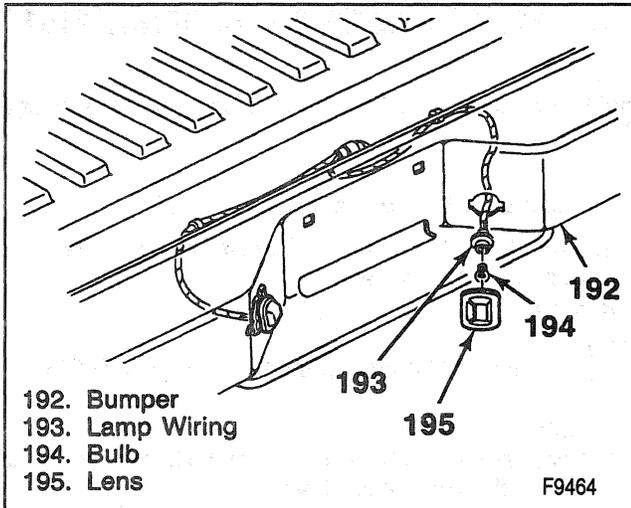

Figure 17—License Plate Lamp
**↔** Remove or Disconnect (Figures 17 through 21)
**↔** Install or Connect (Figures 17 through 21)